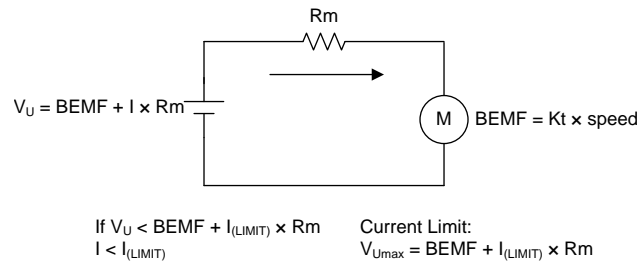

Figure 14. Current Limit
The current-limit function provides active protection for preventing damage as a result of high current. The soft current-limit does not use direct-current measurement for protection, but rather, uses the measured motor resistance (R_m) and motor velocity constant (K_t) to limit the voltage applied to the phase (U) such that the current does not exceed the limit value (I_{LIMIT}). The soft current-limit scheme is shown in Figure 14 based on the calculation in Equation 4.